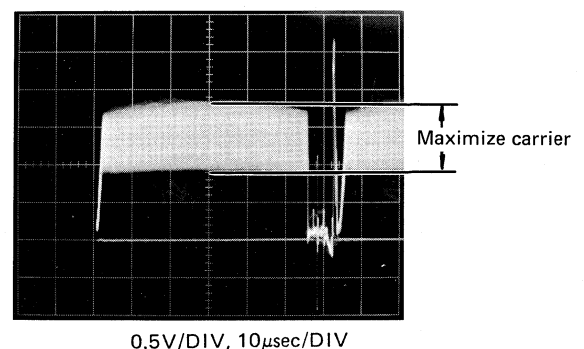

Fig. 4-2-16
- Adjust FOCUS VR15 so that the carrier (5.0MHz) on centre portion of the prevideo signal becomes maximum. (Fig. 4-2-16)